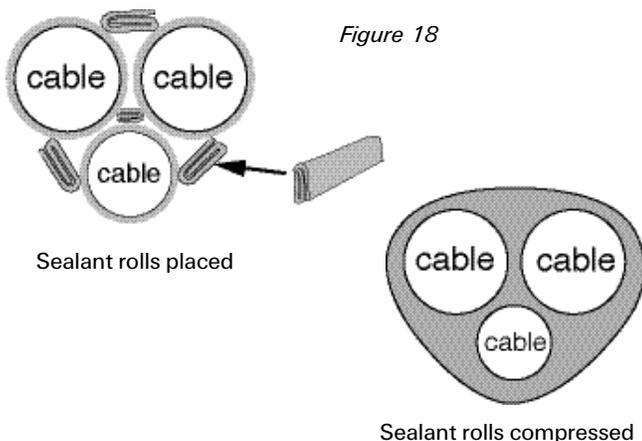

Figure 18
- Cut and fold 2-inch pieces of sealant as required. Place sealant rolls into the voids between the cables. Tightly compress all cables together by hand to eliminate any other voids. See Figure 18.